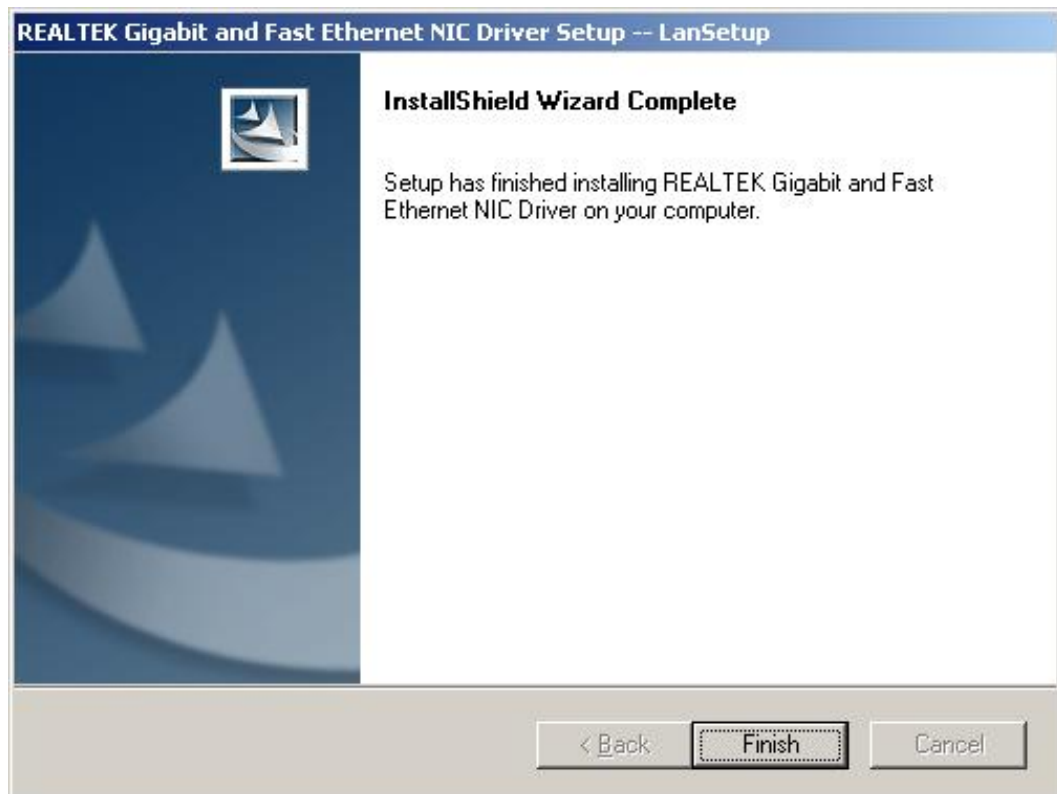

Figure 7-23: Installing Screen
Step 9: Once the installation is complete, the **InstallShield Wizard Complete** screen appears (**Figure 7-23**).